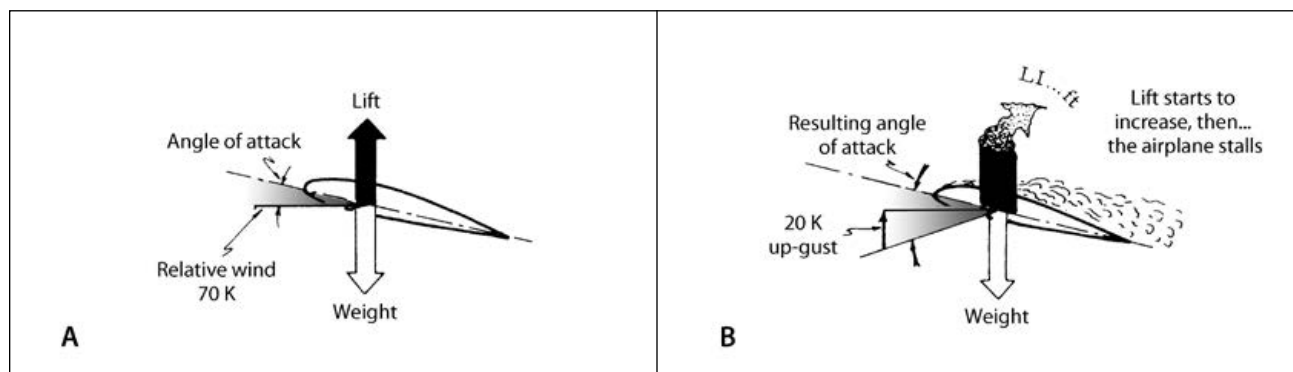

Figure 23-2. Effects of a 20-K upward gust on the airplane cruising at 70 K.
Figure 23-2 shows what would happen if the airplane was flying at a much lower airspeed when it encountered the same 20-K upward gust.
You'll note in (A) that the angle of attack is higher to maintain this lower airspeed of 70 K. (The lift-to-weight ratio is still 1, or lift equals weight, as before.) At (B) the 20-K up-gust results in the stalling angle of attack being reached; the lift starts to increase radically, but the airplane stalls before the limit load factor is reached. The gust in both cases would have the same effect—as if you had suddenly increased back pressure. The stall resulting from the situation in Figure 23-2 would be momentary, and the airplane would soon return to equilibrium. (The stall and recovery would be so fast that it would be unlikely that you would have time to even start your own recovery procedures.) Such a stall situation would be very bad on a low, slow approach on a gusty, turbulent day. You would make the approach several knots faster to lower the chances of an inadvertent stall at a critical point. This was also covered in “Gusty Air and Wind Gradients” in Chapter 13. Because of the comparatively low speeds used in the approach, the stall, rather than high load factors, is the problem encountered. At cruise and higher speeds, the possibility of overstress is the major factor; as everyone will agree, it's better to have a temporary stalled condition than to overstress the airplane, so in very turbulent air, you would slow the airplane to assure that it would stall before this could occur. The speed that divides the stall area from the area of possible overstress is called the “maneuvering speed” and has the designation V_A . The maneuvering speed varies from approximately twice the stall speed, as given by the gross weight calibrated stall speed (at maximum certificated weight), to about 1.6 times that figure at minimum flyable weight for most lightplanes. As an all-around figure when encountering moderate to severe turbulence, slow the airplane to indicate 1.6 times the calibrated stall speed *at all weights*. This will mean that the airplane will stall momentarily rather than